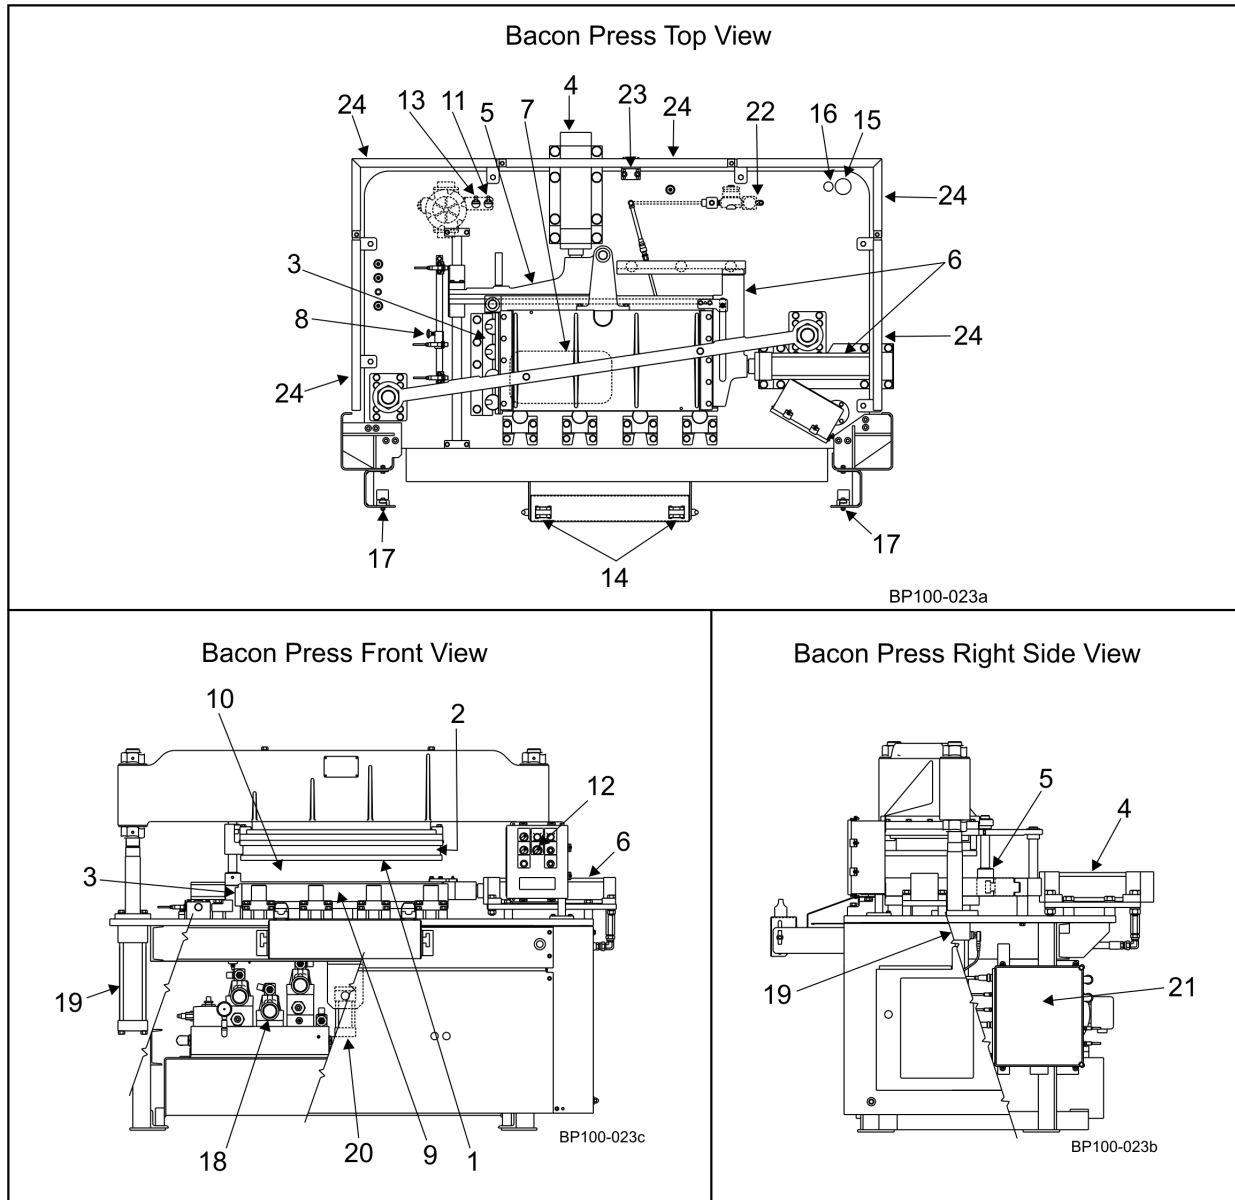

Figure 1 - Bacon Press Major Components
The width control mechanism (Figure 1, item 8), located on left side of press table top, assists operator in determining finished width of pressed belly. Setting is 7 to 14 inches, subject to limitations imposed by varying characteristics of product (such as temperature, type of feed in fattening hog, etc.). Limitations determine the total amount a belly can be compressed without cracking. Field testing on grain-fed bellies at 24°F to 28°F indicates a belly may be compressed approximately 20% smaller than its maximum unpressed width. After natural spring-back, the result is approximately 10% permanent width reduction, squared for slicing.
The 1411P-G3 Press Maximizer assembly (Figure 1, item 7) is located in bottom of die box. Maximizer inflates (SOL-1) to provide a smooth yielding contour for bacon to flow over during pressing operation. At final phase of operation, pressure developed above bacon overcomes pressure in Maximizer diaphragm, allowing bottom of bacon to flatten out and minimize wrinkles in most bellies.
The safety light curtain (Figure 1, item 17) prevents press operation from starting or returns press to open position if operator interrupts safety light curtain before or during press operation. At the beginning of each shift, test and verify safety light curtain. For related information refer to Allen-Bradley User Manual provided.